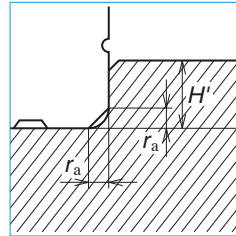

Fig. 10.10 Shoulder for the rail datum surface
(1) Shoulder height of the mounting surface of the machine base and corner radius r
- **Figs. 10.10 and 10.11**, show shoulder height of the mounting surface of the machine base and the size of corner radius. These figures are relevant when the linear guide is pressed to the shoulder of the machine base or table (the raised section from where the mounting surface begins), and horizontally secured to it. Recommended sizes are shown in "Shoulder height and corner radius r " for each model.